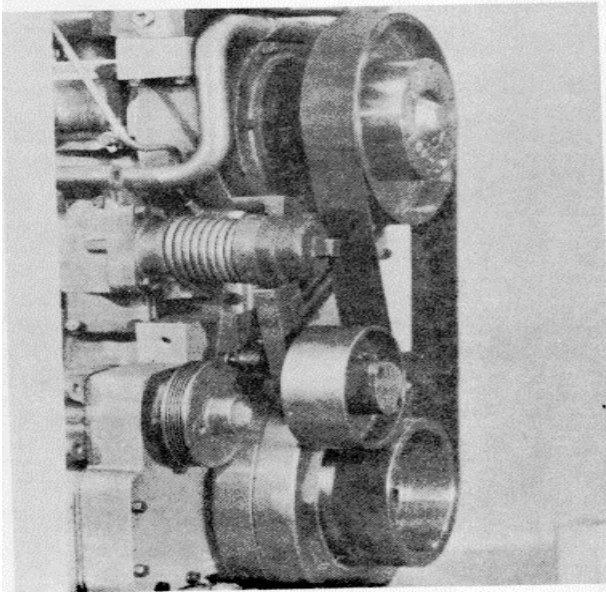

Figure 16N-77. Fan Hub and Idler
1. Install the pivot arm assembly to the alternator mounting bracket. Tighten the capscrews to 30-35 ft-lbs (41 to 47 N.m) torque, Figure 16N-77.